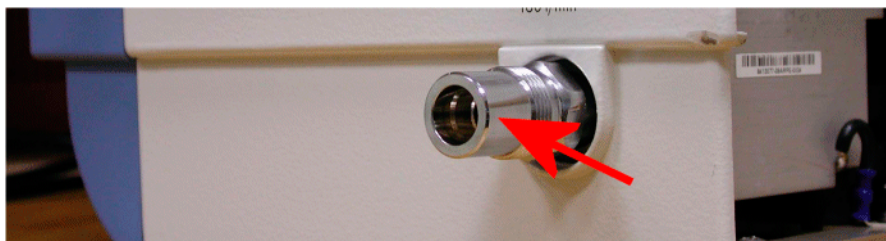

Figure 12 NIST connector
11. Remove the NIST connector (Figure 12) (if fitted) and the sealing ring.